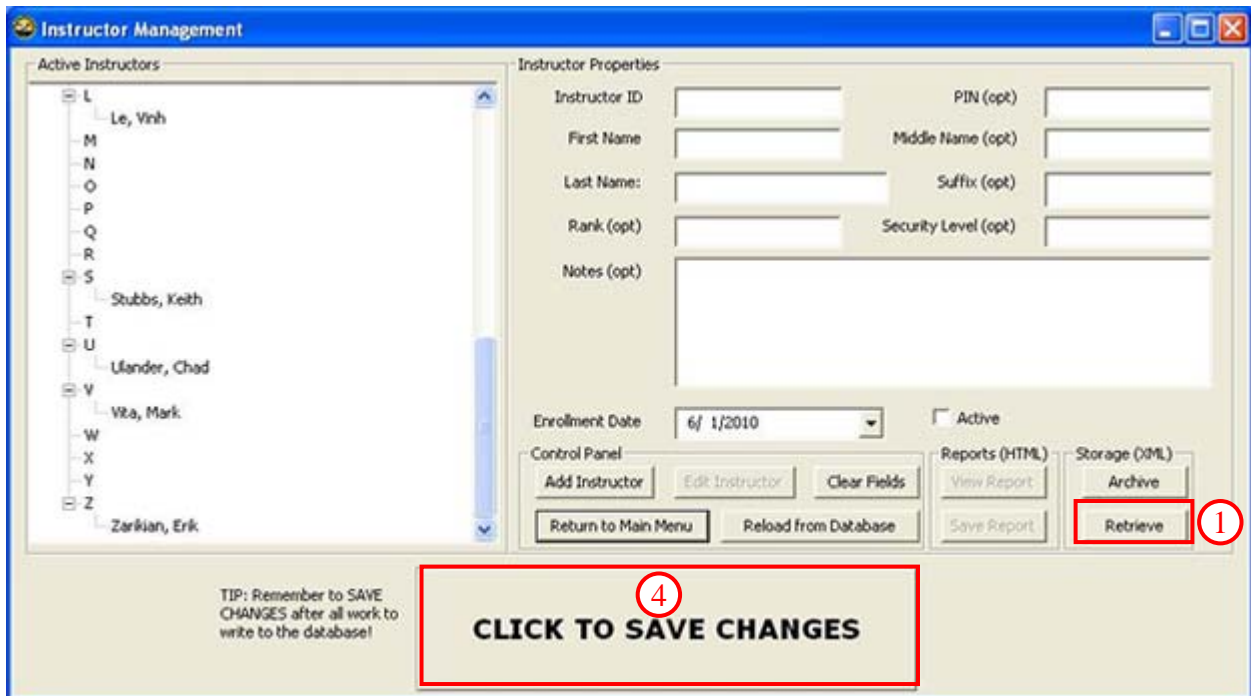

Figure 43. Instructor Management - Retrieve
1. Click the [RETRIEVE] button (Figure 43).